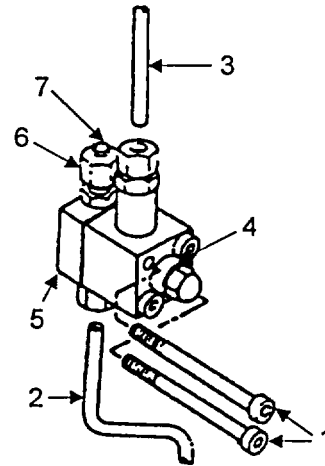

Figure 4-7. Oil Pressure Regulator
- a. Remove inlet and return oil lines (Figure 4-7, Items 2 and 3). Cap or plug open ends to prevent contamination of the oil system.
- b. Remove mounting socket head cap screws (1) and remove the regulator (4) and O-ring (8).